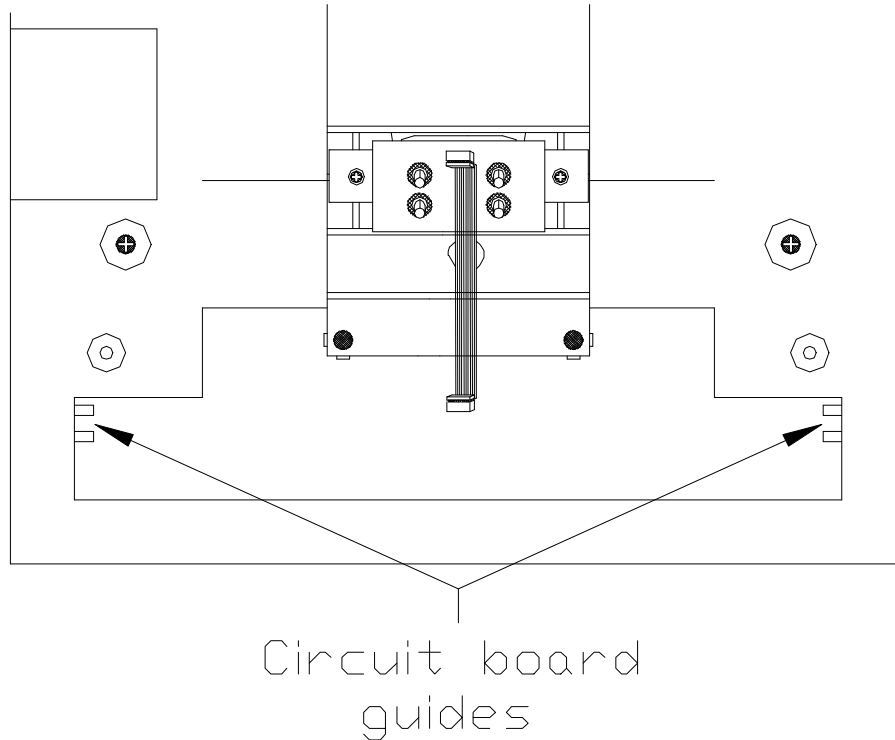

Figure 10.
14. Carefully slide circuit board back into the chassis, using the circuit board guides to locate the circuit board correctly, until the camera's ribbon cable can be inserted. See figure 10 below.